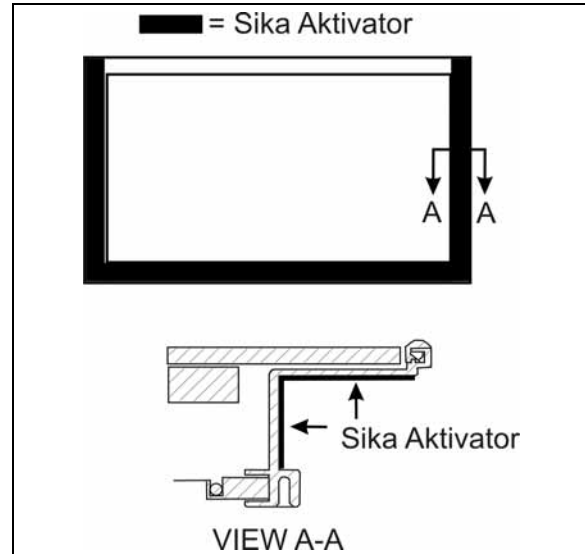

FIGURE 75 : SLIDING WINDOW - SIKA AKTIVATOR
2. Clean sliding window frame with anti-silicone and then apply Sika Aktivator as per FIGURE 75;